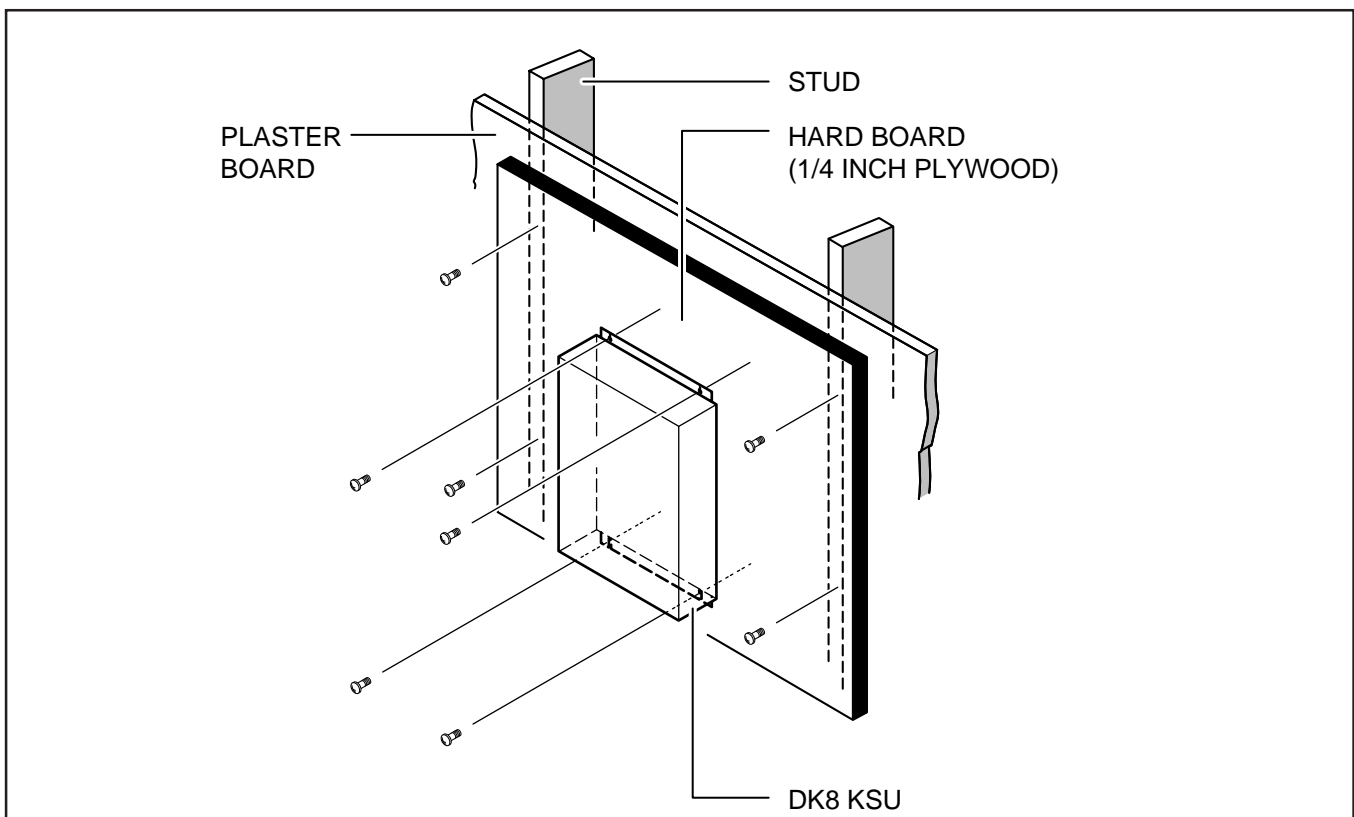
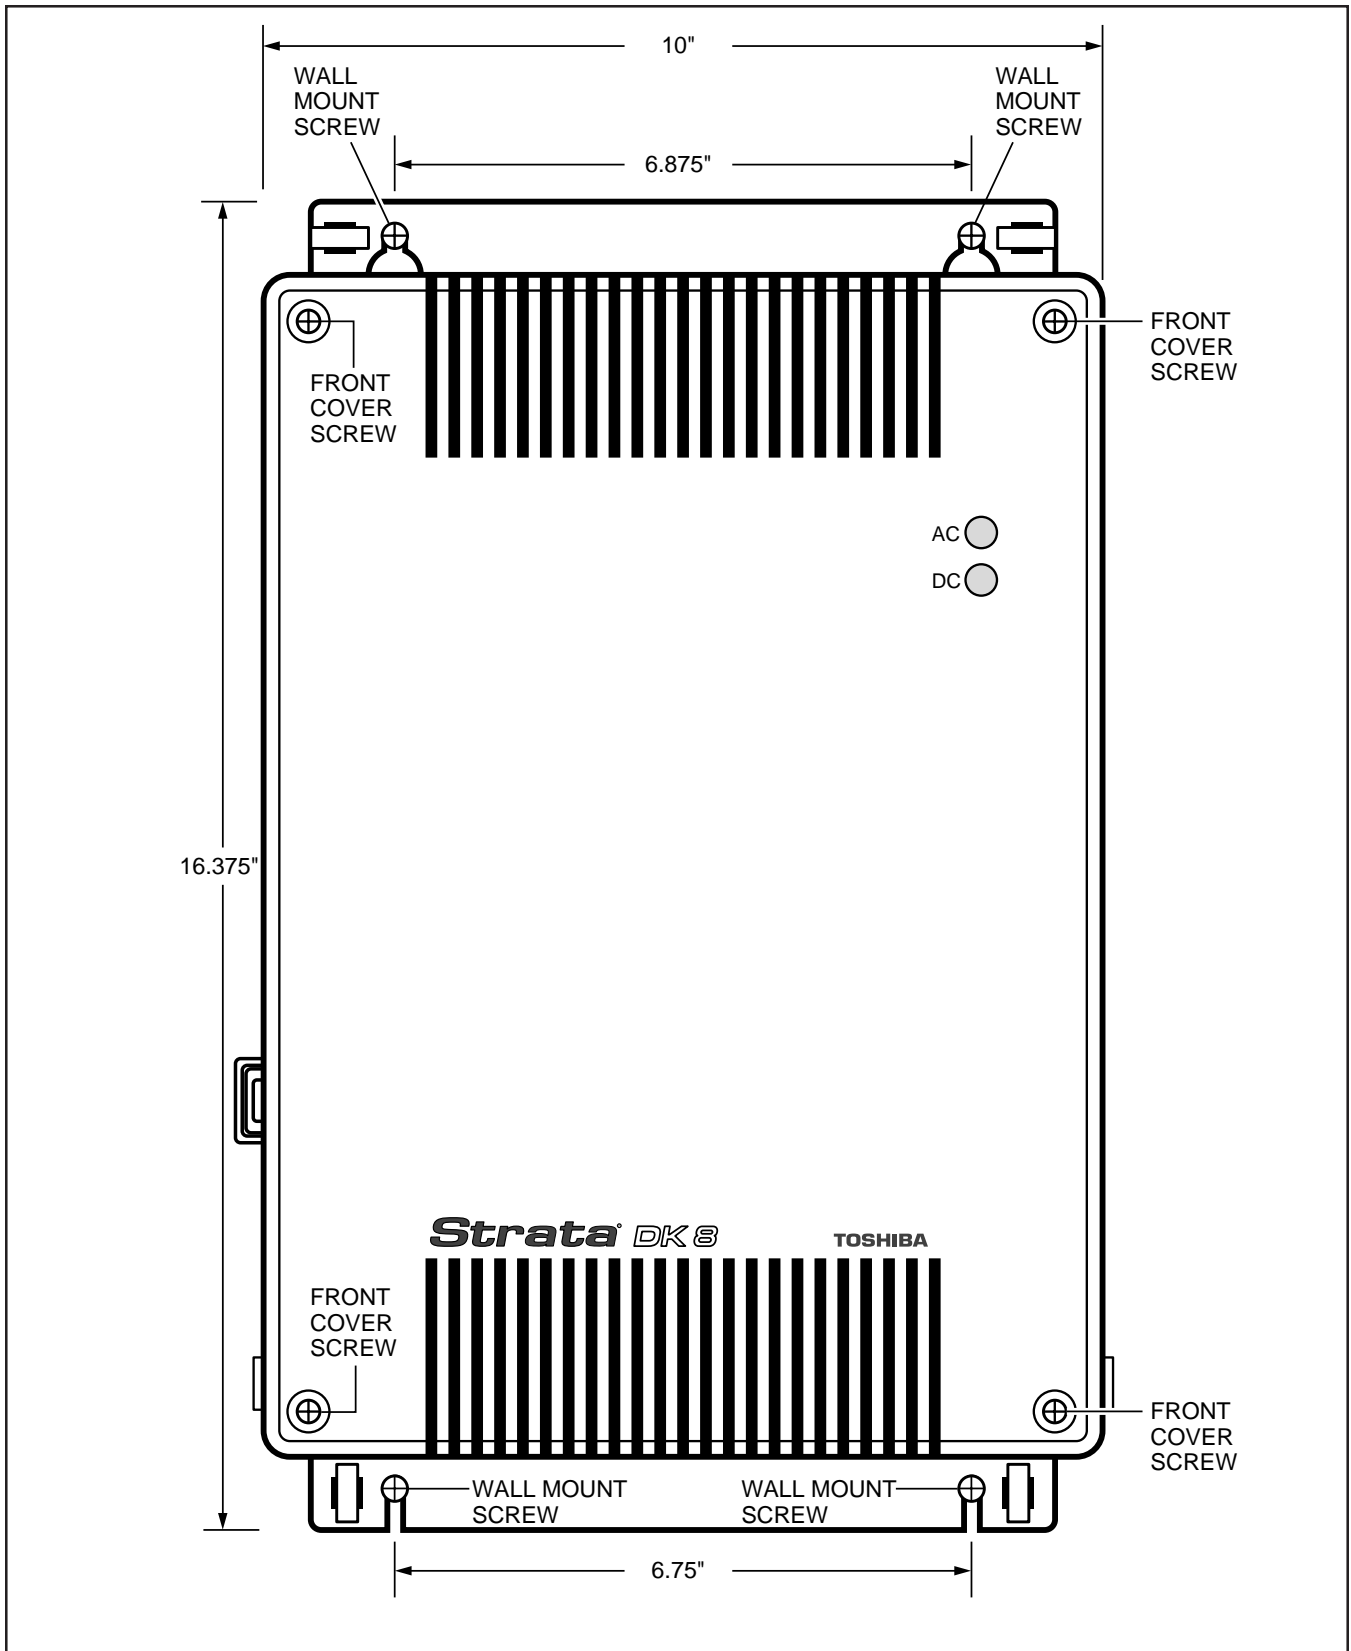

FIGURE 4-1
FIGURE 4-2
2.01 The Key Service Unit (KSU) is designed to be mounted on a wall or other vertical surface. It is recommended to use the method shown in Figure 4-1 (see Note). See Figure 4-2 for DK8 KSU physical dimensions.
- 1) Loosen the screws on the front cover of the Key Service Unit, and remove the cover (Figure 4-2).
- 2) Place the Key Service Unit on the desired location on the mounting surface and mark the location of the four screw holes (there is one on each corner). See Figures 4-1 and 4-2.